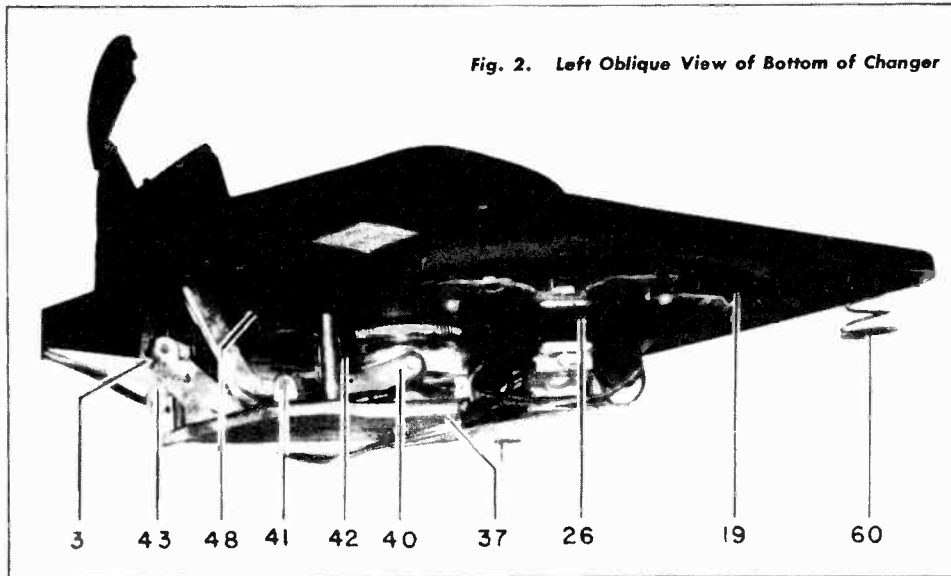

Fig. 2. Left Oblique View of Bottom of Changer
1. Unhook the rocker arm return spring (42), Fig. 2.
2. Remove the rocker arm pivot pin (41), Fig. 2.